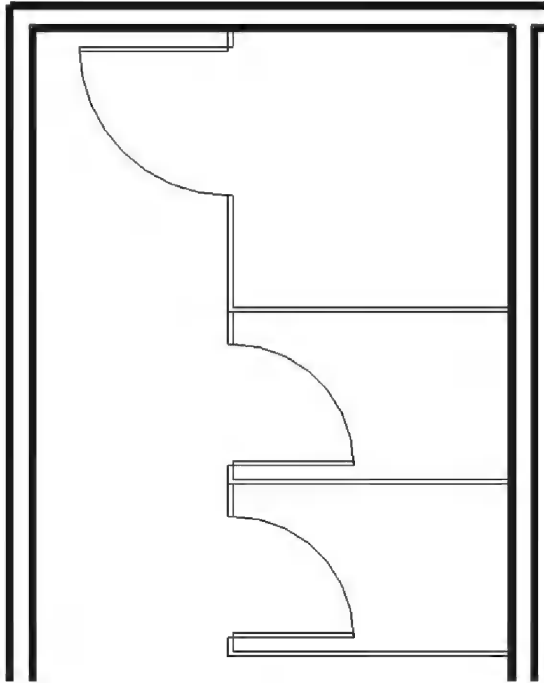

FIGURE 11-1.3 Toilet stalls placed
**36" x 60" Clear** as shown in Figure 11-1.3.